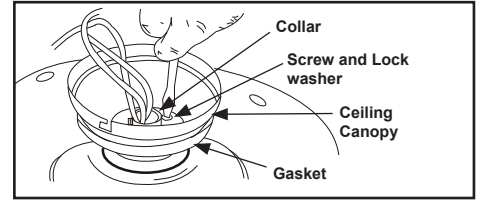
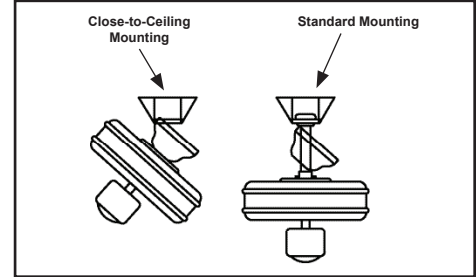

Figure 11
Figure 14
2. Place the gasket over the remaining three screws (for wet rated fans only), route the wires exiting the top of the fan motor through the canopy ring (make sure the slot openings are on top), then proceed to place the ceiling canopy over the collar at the top of the motor (Figure 11).
4. If using the “close-to-ceiling” mounting option, carefully lift the fan assembly up to the ceiling mounting bracket and hang the fan on the hook provided by utilizing one of the holes at the outer rim of the ceiling canopy (Figure 14). If Using standard mounting, seat the hanger ball in the mounting bracket socket. Make sure the tab on the mounting bracket socket is properly seated in the groove in the hanger ball (Figure 14).
THE HOOK AS SHOWN IN FIGURE 11 IS ONLY TO BALANCE THE FAN WHILE ATTACHING WIRING. FAILURE TO HANG AS SHOWN IN FIGURE 14 MAY RESULT IN HOOK BREAKING CAUSING THE FAN TO FALL. HOOK MUST PASS FROM INSIDE TO OUTSIDE OF CANOPY.